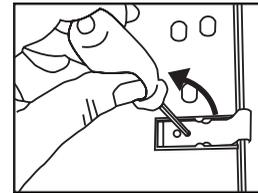

Fig. 2
3. Remove the small screw from spring latch mechanism. **(Fig. 2)**
3. Extraiga el tornillo del mecanismo. **(Fig. 2)**
3. Enlever les petites vis du ressort de loquet. **(Fig. 2)**